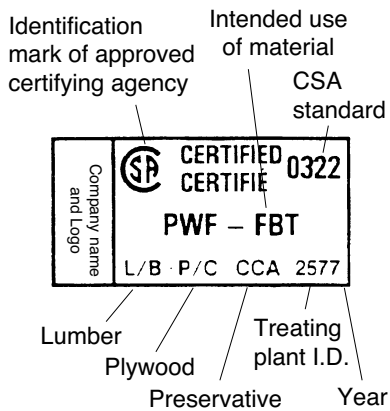

FIGURE 66
- ◆ Use certified materials only. Look for “PWF” on the certification stamp. Material must be produced by a plant that has a quality control program that meets the requirements of CSA 0322. This was formerly administered by CSA, but is now done by a number of certifying agencies (see Figure 66).